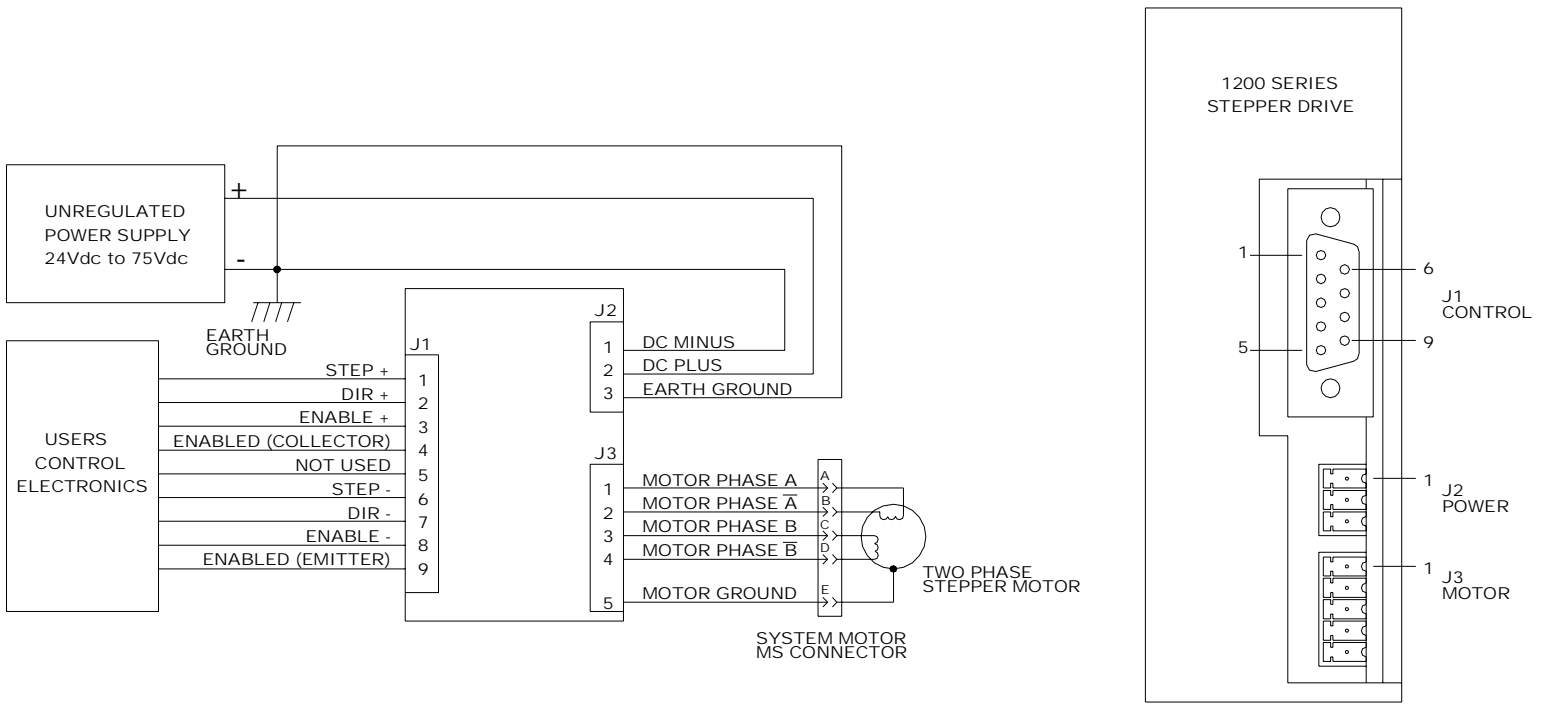
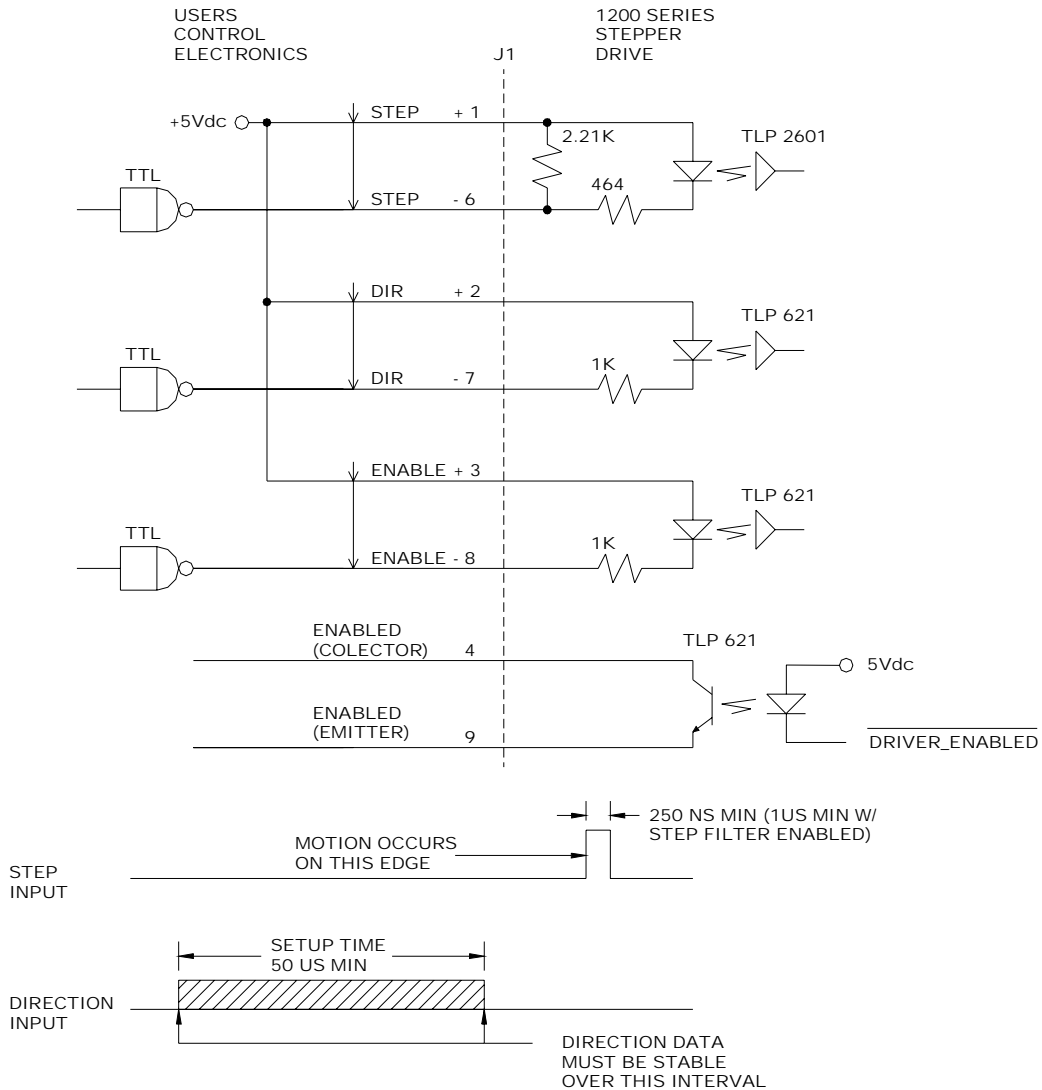

Figure 1: 1200 Series Amplifier Connections
Figure 2: Interface Circuits
- **Inputs** (Figure 1 and Figure 2)
- **Output** (Figure 1 and Figure 2)
Connectors (Figure 1)